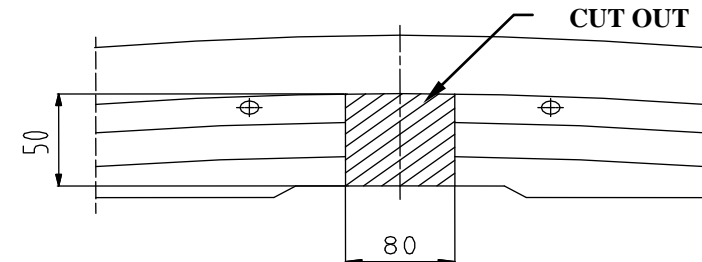

Fig.2.
3. In maked holes put sleeves $\varnothing 17$ mm (pos. 8), length = 73 mm.
4. To rear side put main bar of towing hitch (pos. 1) in that way, so holes pos. A agree to holes for unscrewed reinforcement and fix using bolts M8x35mm (loosely) – pos. 12.
5. Elements (pos. 4 and 5) put to chassis members and rear side and fix using bolts M10x110 mm (pos. 10) and M10x35mm (pos. 11).
6. Assemble masking cover and bumper after cut his fragment 80x50mm – see fig. 2.